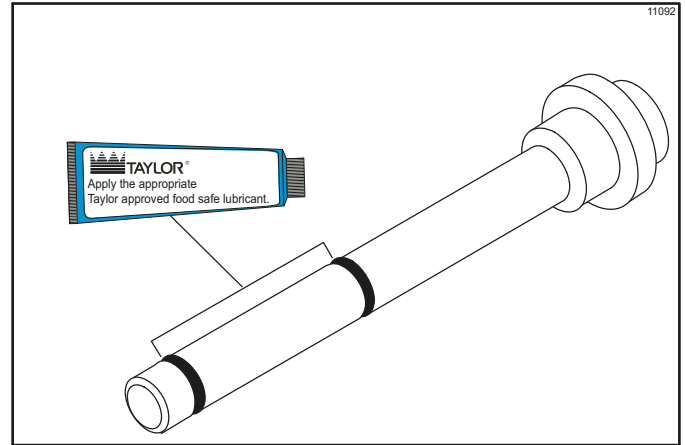

Figure 6-9
15. Slide the two O-rings into the grooves on each prime plug. Apply an even coat of Taylor Lube to the O-rings and shafts. (See Figure 6-9.)